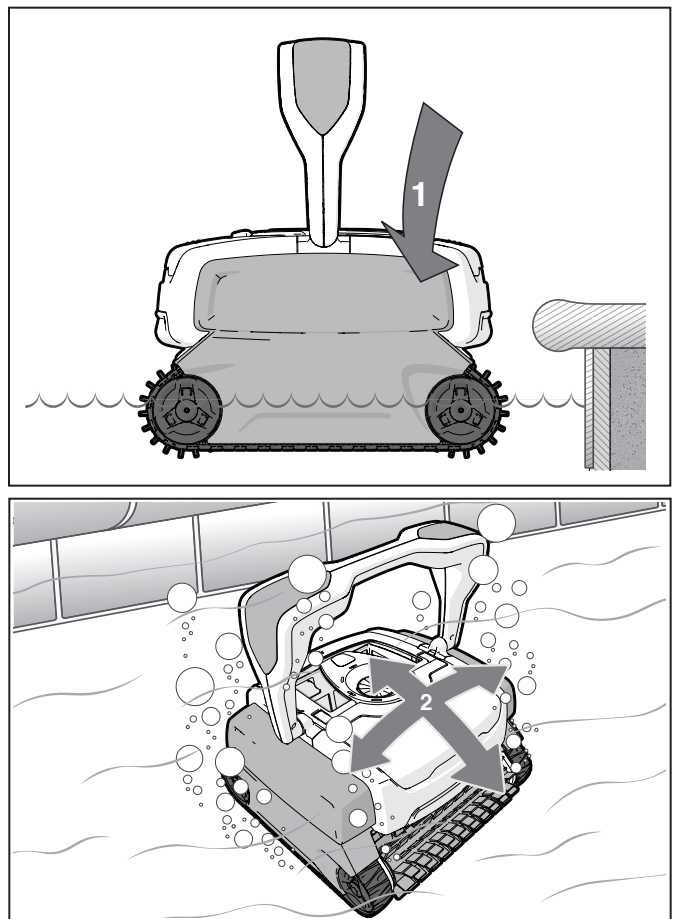

Figure 12. Submerge and Remove Trapped Air
1. Submerge the cleaner vertically (1) and hold it under the surface, moving gently from side to side (2) until the bubbles stop to remove any air trapped inside (see Figure 12).